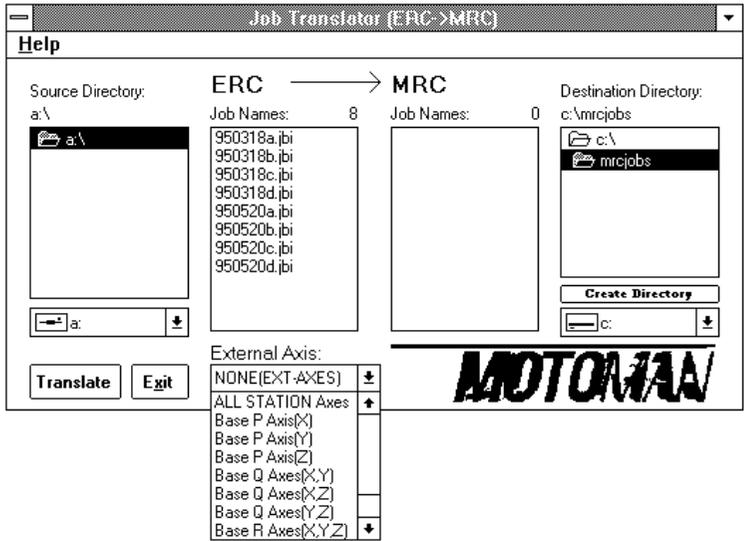

Figure 4-3 External Axis Selections
9. Pull down the External Axis dialog box and select the type of external axes applicable to your robot configuration (see Figure 4-3).